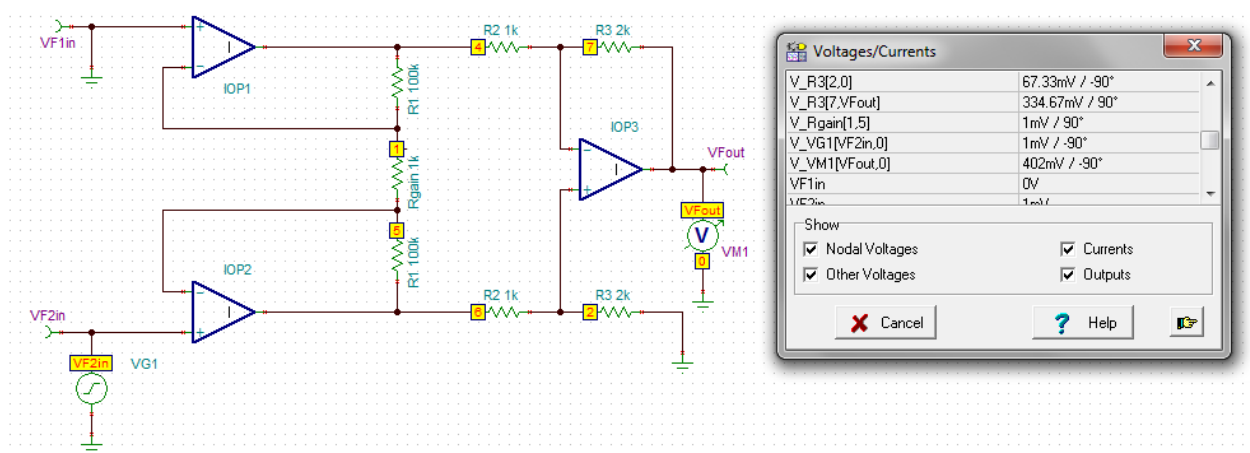

Fig. 4. Displayed nodal voltages.
7. Connect voltmeter at the output as shown in Fig. 4.
9. Analyze nodal voltages and branch currents in the table of Fig. 4.